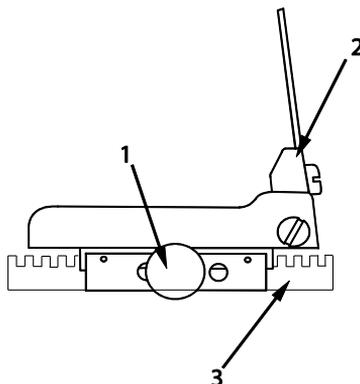

Figure 2. Leaf Sight
2. Loosen torque limiting knob (Figure 2, Item 1) on leaf sight (Figure 2, Item 2) and remove leaf sight from rail. (Figure 2, Item 3)